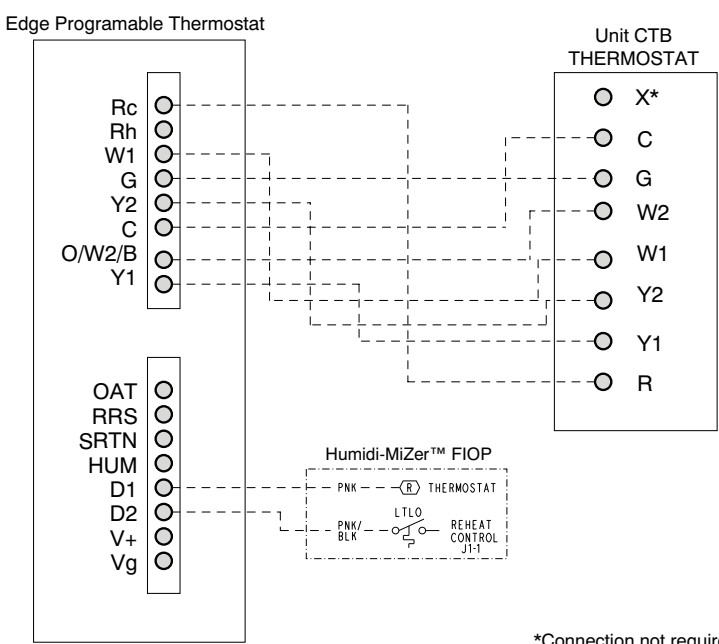

Fig. 38 - Typical Rooftop Unit with Humidi-MiZer Adaptive Dehumidification System with Edge® Pro Thermidistat Device
3. The Thermidistat has dry contacts at terminals D1 and D2 for dehumidification operation (see Fig. 38). The dry contacts must be wired between CTB terminal R and the PNK/BLK lead to the LTLO (low temperature cooling lockout) switch with field-supplied wire nuts. Refer to the installation instructions included with the Carrier Edge Pro Thermidistat device for more information.